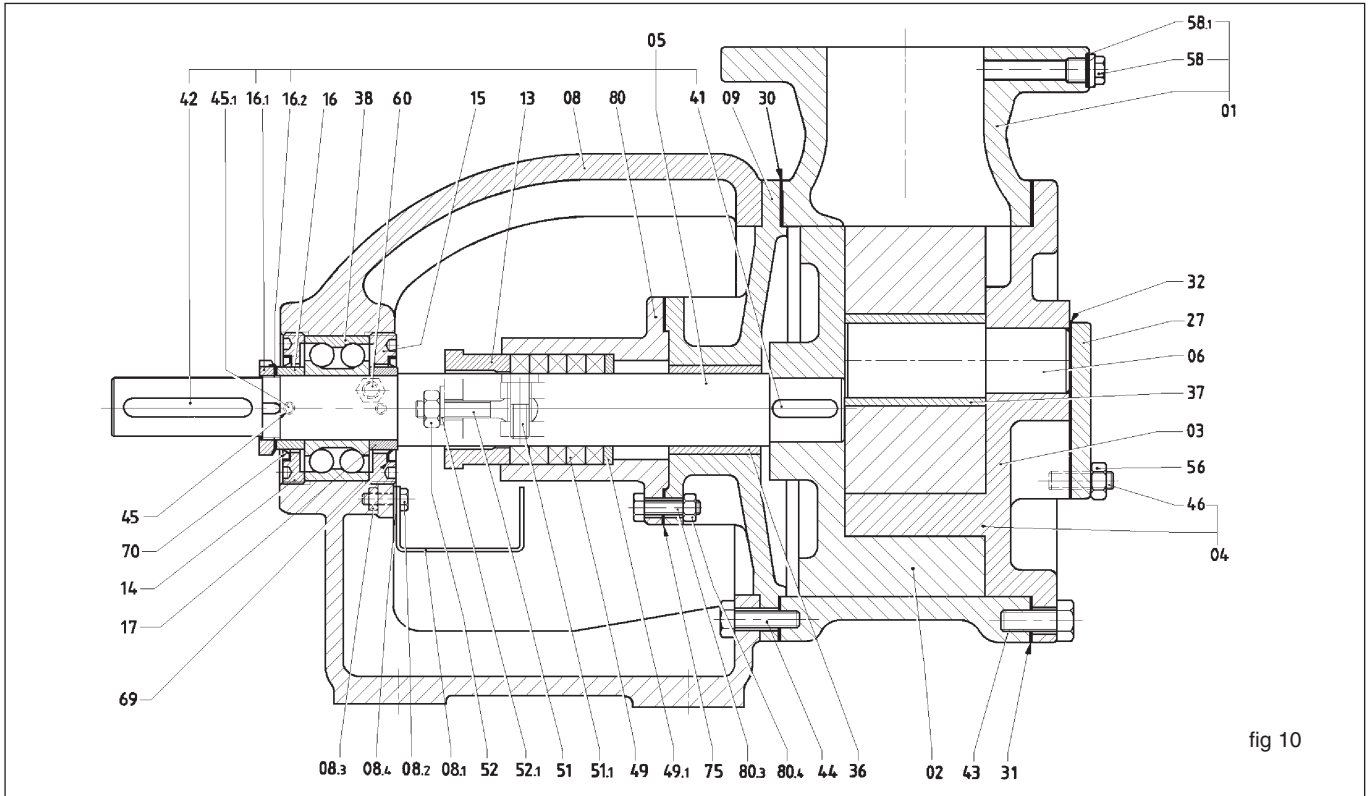

fig 10
### 11.1 Removing the cover (04) (see fig. 10)
- ❑ Unscrew the screws (43). Use the two threaded holes on the cover (if present) to facilitate removal of the cover.
- ❑ When removing the cover, take care not to damage the gasket (31). If this is damaged it should be replaced. Do not use damaged gaskets or gaskets with a thickness different from that of the original gasket.
### 11.2 Removing the idler (03) (see fig. 10)
- ❑ Slip the idler off the idler pin (06). The idler bush is fitted to the centre of the idler. (Some versions do not have an idler bush and mount a large diameter pin.)
### 11.3 Removing the idler pin (06) (see fig. 10)
#### 11.4 Removing the casing (01) (see fig. 10)
- Remove the screws (44).
- Disengage the casing from the rear cover (09) taking care not to damage the gasket. If the gasket is damaged, replace it.
#### 11.5 Removing the ball bearing (38) (see fig.10)